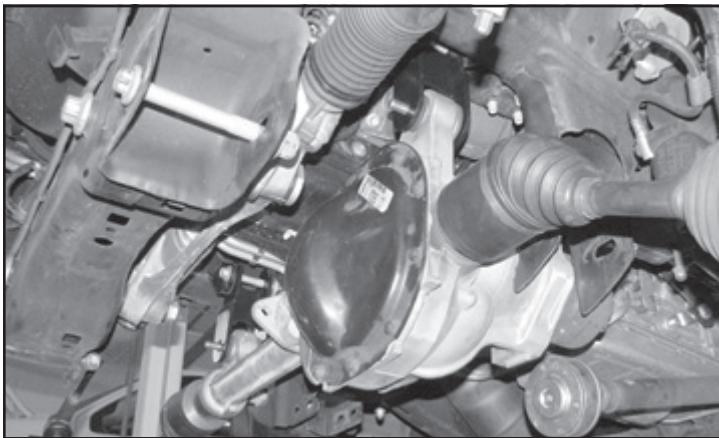

FIGURE 22 - STEP 23
23. Locate the factory front differential and install into the Fabtech upper differential mounts using two ½"-13 x 4" hex cap bolts, washers and lock nuts. Leave all hardware loose in preparation of the installation of the remaining differential mounts. **SEE FIGURE 22**